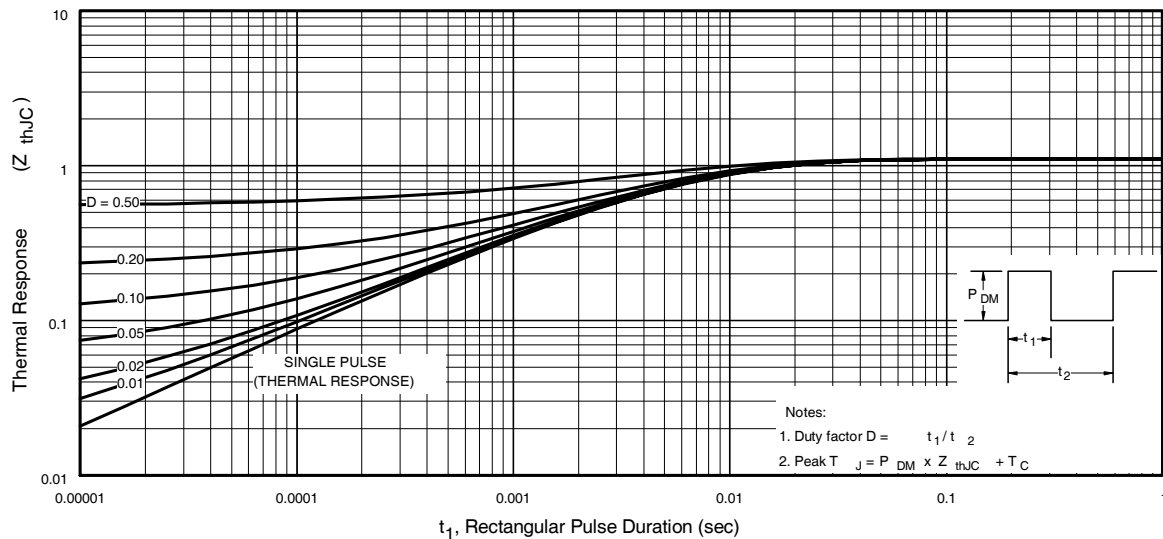

Fig 11. Maximum Effective Transient Thermal Impedance, Junction-to-Case
- ① Repetitive rating; pulse width limited by max. junction temperature. (See fig. 11)
- ② Starting $T_J = 25^\circ\text{C}$, $L = 11mH$